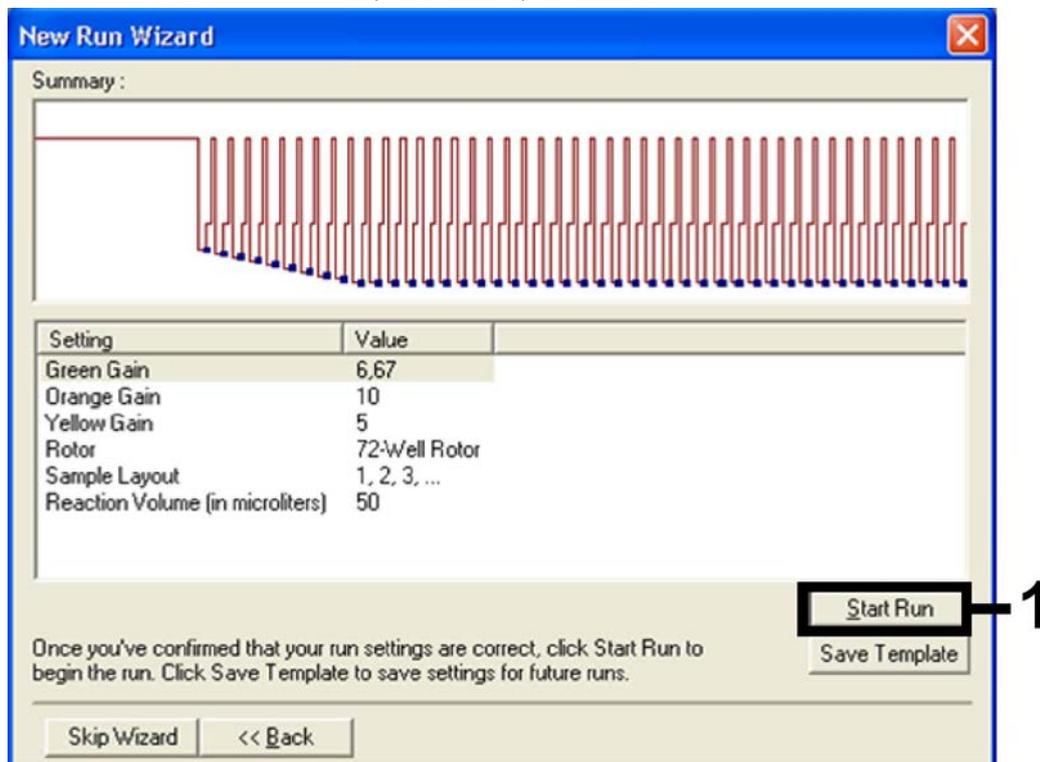

Figure 9. Starting the run.
Starting the run	Figure 9
10. The gain values determined by the channel calibration are saved automatically and are listed in the last menu window of the programming procedure (Figure 9). Click "Start Run".